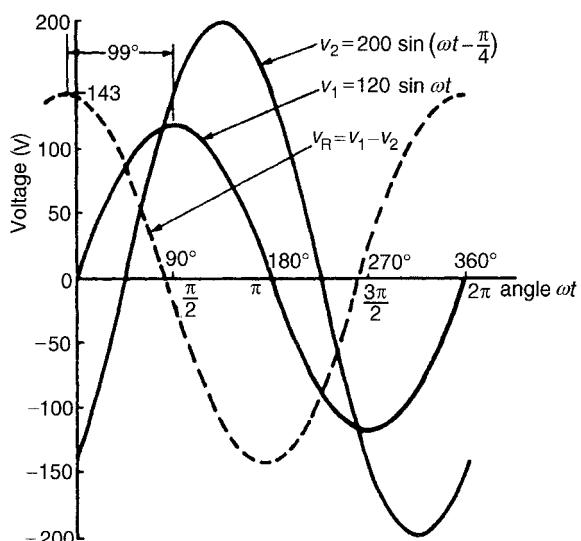

Figure 14.13
- (a) $v_1 = 120 \sin \omega t$ and $v_2 = 200 \sin(\omega t - \pi/4)$ are shown plotted in Fig. 14.13 Care must be taken when subtracting values of ordinates especially when at least one of the ordinates is negative. For example
The resultant waveform, $v_R = v_1 - v_2$, is shown by the broken line in Fig. 14.13. The maximum value of v_R is 143 V and the waveform is seen to lead v_1 by 99° (i.e. 1.73 radians).